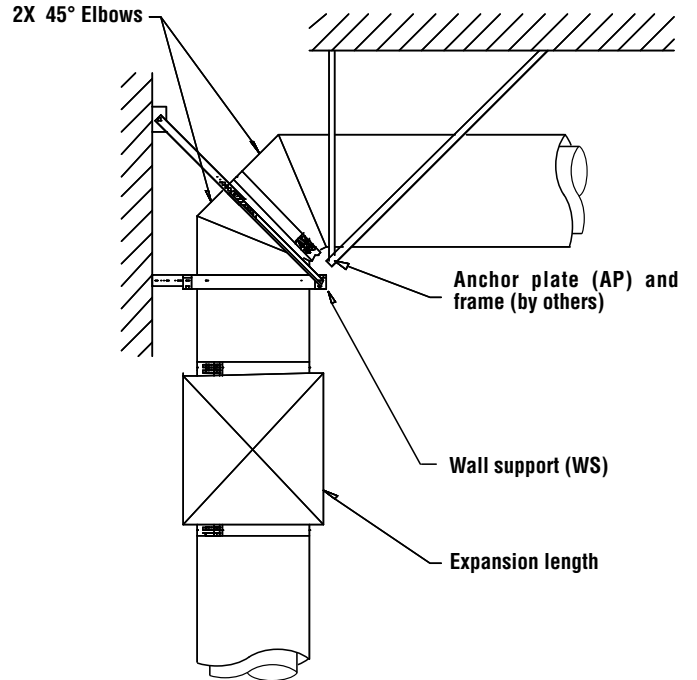

Figure 17 - Supported elbow
2. The tapered increaser induce less pressure drop than the step increaser, but requires more space. It has a 15° side angle and provides increases of one, two or three size. The height of the fitting varies depending on the diameters to be increased (see figure 17).
4. Elbows are not designed to take bending loads and must be structurally supported (see figure 17). Structural parts such as posts or beams may also be needed to hold chimney supports in position.